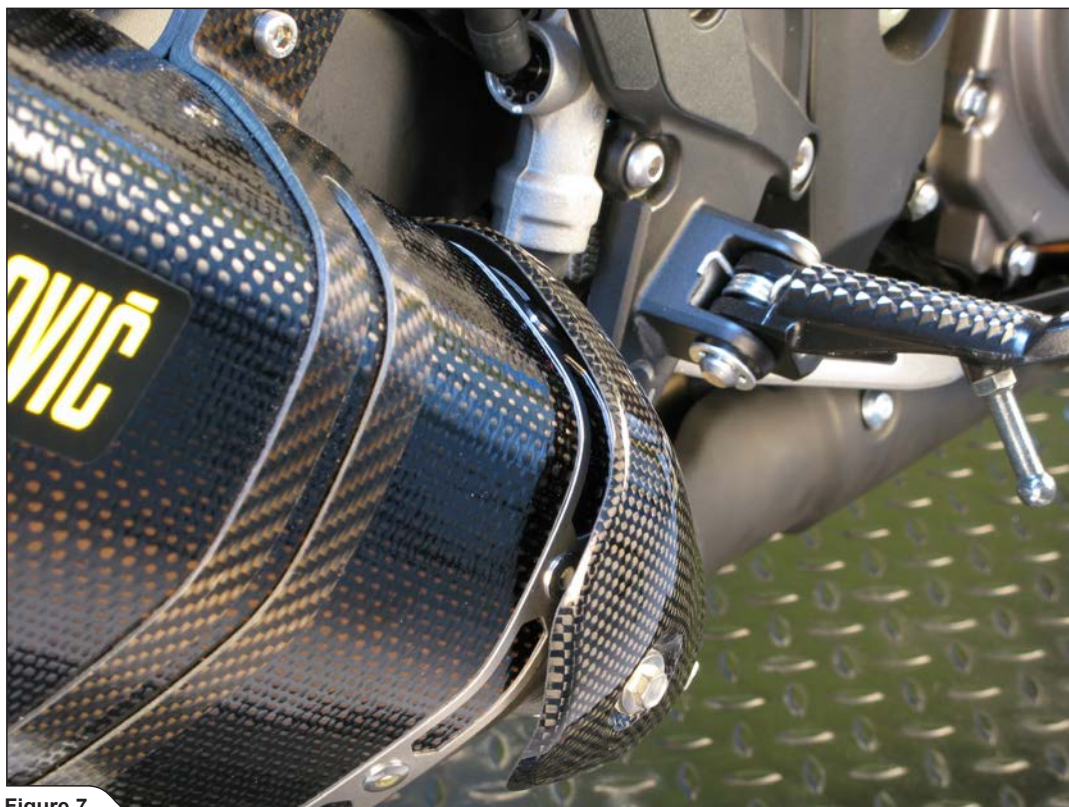

Figure 7
4. Adjust the heat shields in respect to mufflers' shape, as shown (Figure 7, 8).